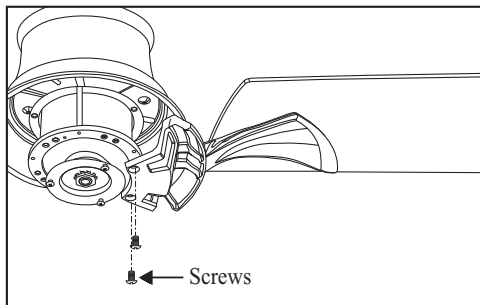

Figure 14
3. Fasten blade assembly to motor using the screws supplied. (Fig. 14)